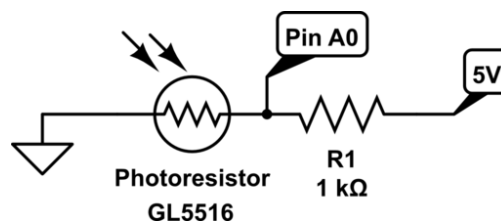

Figure 10: Light sensitive voltage divider
- Add the circuit shown in figure 10.